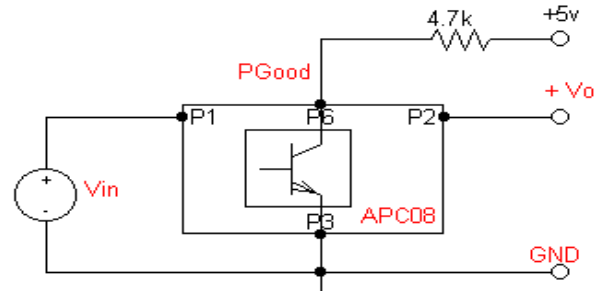

Figure 6. PG Good setup.
8. Refer to Figure 6 for the PGood configuration.
PG pin provides an output signal indicating the Vout is operational (TTL logic signal). It can sink current up to a max of 5mA and can have a maximum external pull-up voltage of 6V. Please see recommended setup shown on Figure 6.